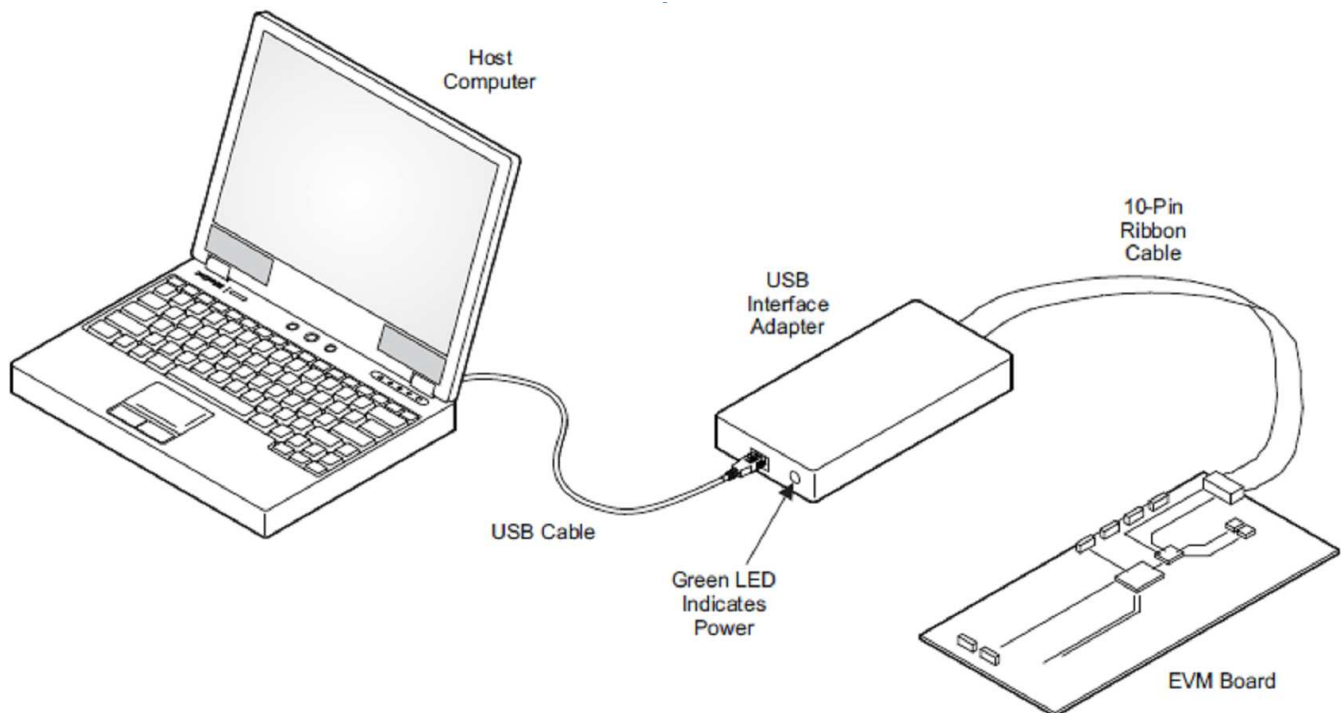

Figure 6. USB Interface Adapter Quick Connection Diagram
- Connect one end of the USB-TO-GPIO box to the PC using the USB cable and the other end to P1 of the TPS65235-1 using the supplied 10-pin ribbon cable, per Figure 6. The connectors on the ribbon cable are keyed to prevent incorrect installation.